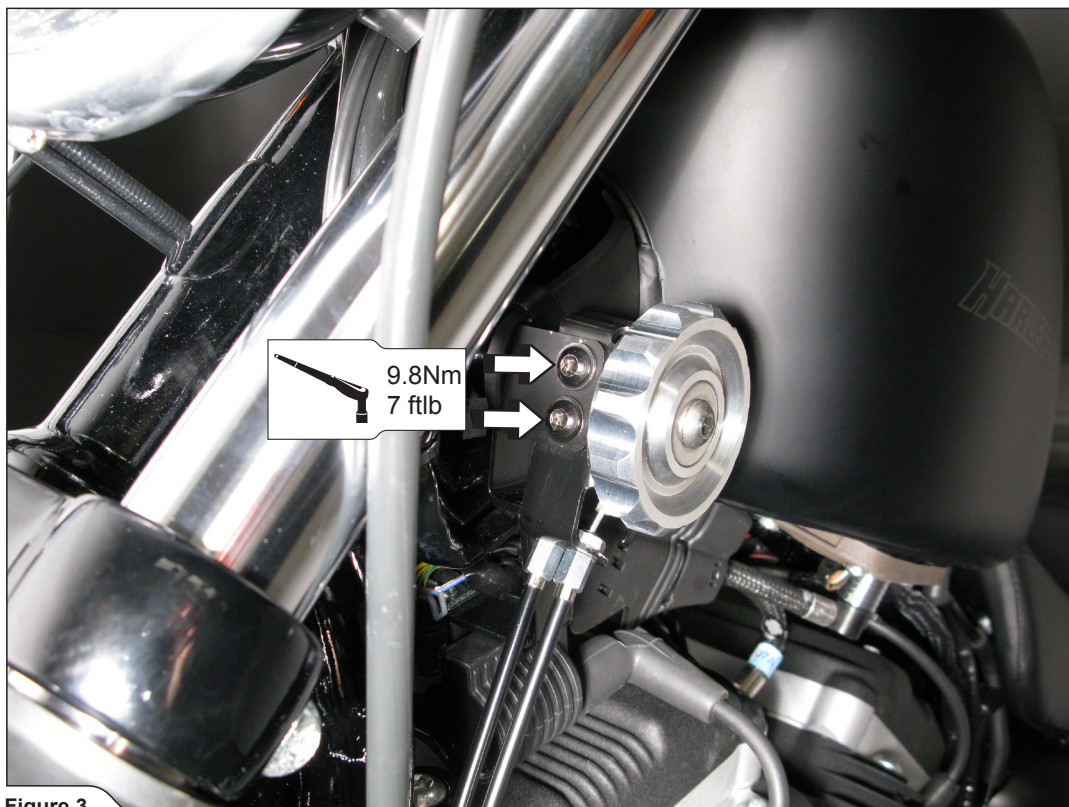

Figure 3
4. Attach the valve switch assembly onto the bracket using bolts from installation kit (**Figure 3**).